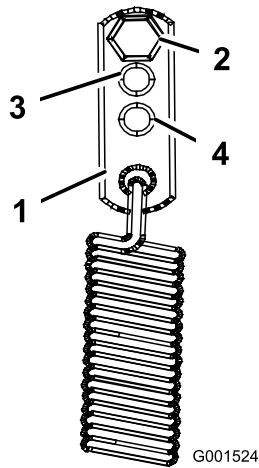

Figure 43
- For a heavier drive setting, relocate the spring anchor links to either the medium or heavy duty positions (Figure 43). The spring anchor links are attached to the upper rear corner of the hydro drive shields on the left and right sides of the machine.
The parking brake lever is on the right side of the machine (Figure 43). If the parking brake does not hold securely, adjust it.